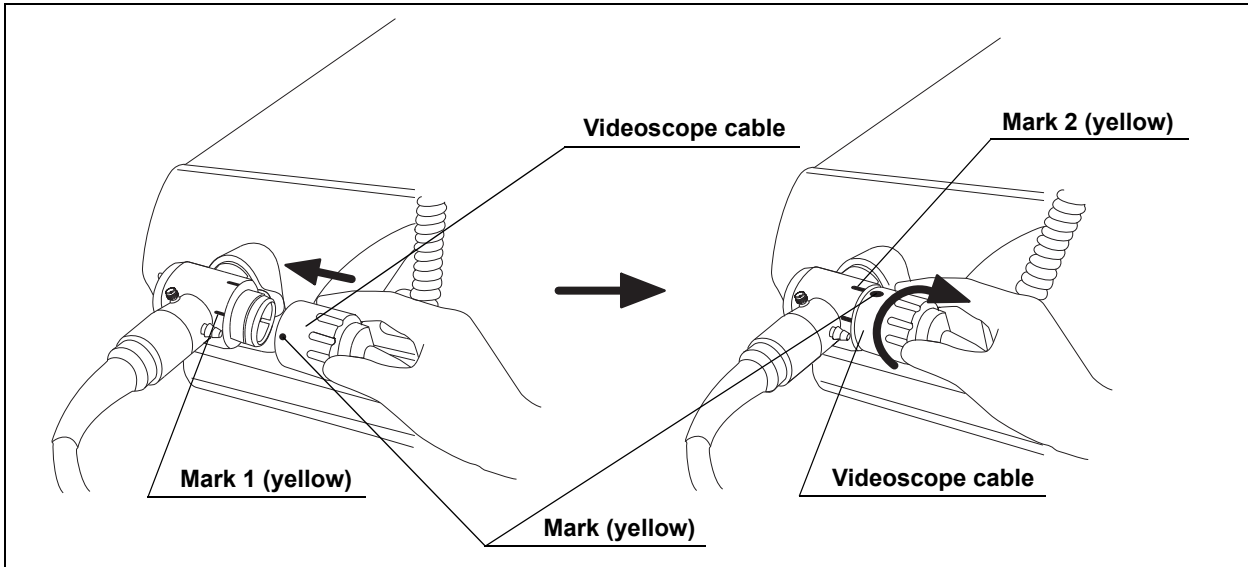

Figure 3.15
7. Align the mark on the videoscope cable EXERA, EXERA II, or 100 with mark 1 on the endoscope connector and push it in until it stops (see Figure 3.15).
8. Turn the connector of the videoscope cable towards mark 2 until it stops (see Figure 3.15).